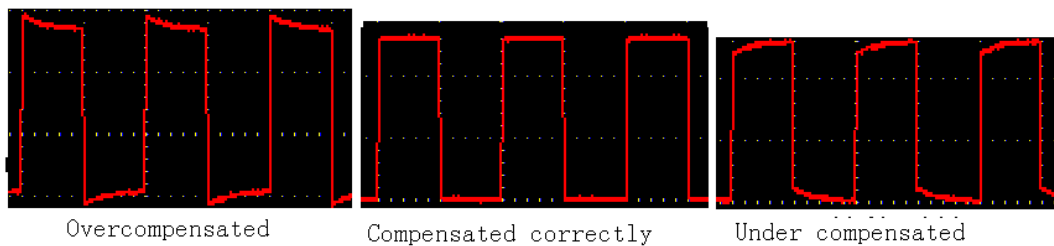
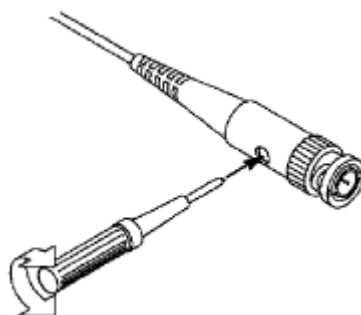

Fig. 4-5 Displayed Wave Forms of the Probe Compensation
Fig. 4-6 Adjust Probe
2. Check the displayed wave forms and regulate the probe till a correct compensation is achieved (see Fig.4-5 and Fig.4-6).